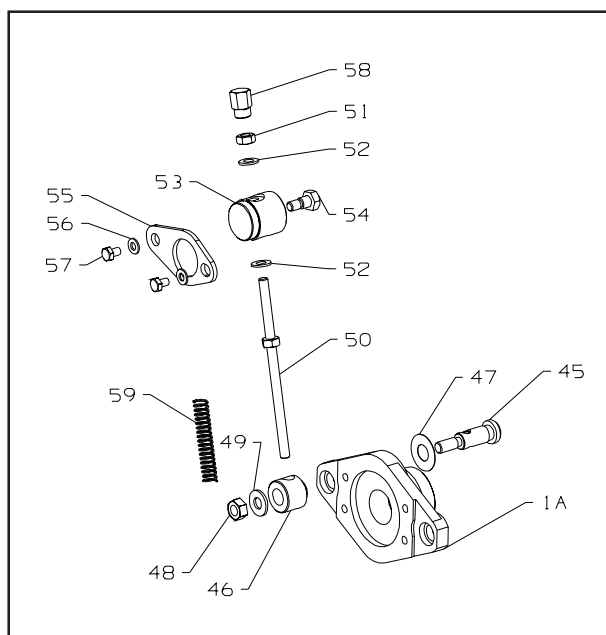

Fig.7
1. Slacken the cutting cylinder clamp nuts and bolts (48 Fig.7) on both sides of the unit and adjust the nuts (58 Fig.7) to bring the cylinder slightly off cut so that it will revolve freely.
5. Re-tighten the cylinder bearing housing clamp bolts and nuts (48 Fig.7) securely.